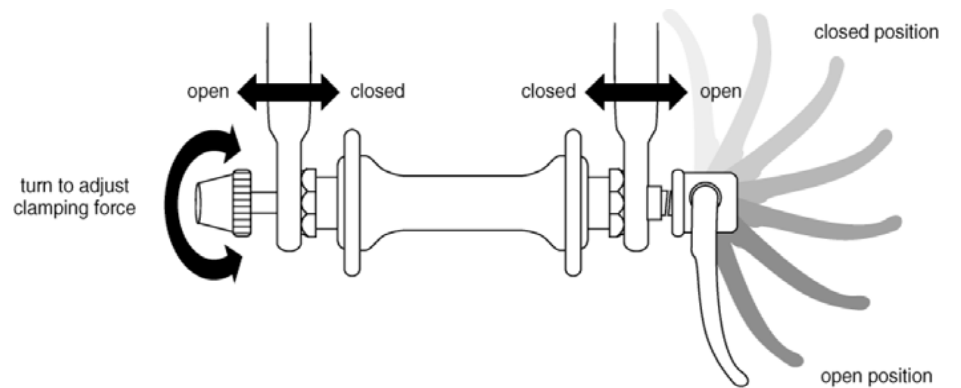

fig. 6
**1. Wheel Quick Release Description.** The wheel quick release uses a cam action to clamp the bike's wheel in place (see fig. 6). Because of its adjustable nature, it is critical that you understand how it works, how to use it properly, and how much force you need to apply to secure the wheel.
- (3) Holding the quick-release lever in the OPEN position with your right hand, tighten the tension adjusting nut with your left hand until it is finger tight against the fork dropout (fig. 6).
- (4) While pushing the wheel firmly to the top of the slots in the fork dropouts, and at the same time centering the wheel rim in the fork, move the quick-release lever upwards and swing it into the CLOSED position (fig. 6 & 7a). The lever should now be parallel to the fork blade and curved toward the wheel. To apply enough clamping force, you should have to wrap your fingers around the fork blade for leverage, and the lever should leave a clear imprint in the palm of your hand.
- (5) If the lever cannot be pushed all the way to a position parallel to the fork blade, return the lever to the OPEN position. Then turn the tension-adjusting nut counterclockwise one-quarter turn and try tightening the lever again.
- (6) Re-engage the brake quick-release mechanism to restore correct brake pad-to-rim clearance; spin the wheel to make sure that it is centered in the frame and clears the brake pads; then squeeze the brake lever and make sure that the brakes are operating correctly.
- (1) Shift the rear derailleur to its outermost position and pull the derailleur body back with your right hand.
- (2) Put the chain on to the smallest sprocket. Then, insert the wheel into the frame dropouts and pull it all the way in to the dropouts. The axle nut washers should be on the outside, between the frame and the axle nut.
- (3) Using the correct size wrench, tighten the axle nuts as tightly as you can.
- (4) Push the rear derailleur back into position.
- (5) Re-engage the brake quick-release mechanism to restore correct brake pad-to-rim clearance; spin the wheel to make sure that it is centered in the frame and clears the brake pads; then squeeze the brake lever and make sure that the brakes are operating correctly.
**B. Seatpost Quick Release.** Some bikes are equipped with a quick-release seat post binder. The seatpost quick-release binder works exactly like the wheel quick-release (Section 4.A.1). While a quick release looks like a long bolt with a lever on one end and a nut on the other, the quick release uses a cam action to firmly clamp the seat post (see fig. 6).